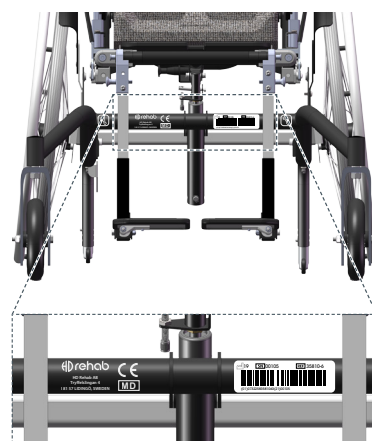

Figure 1. Labels for wheelchair identification
Manufacturer, production year, serial number (SN), and article number (REF) in text and in bar code format are printed on the front cross tube of the wheel frame, see Figure 1.